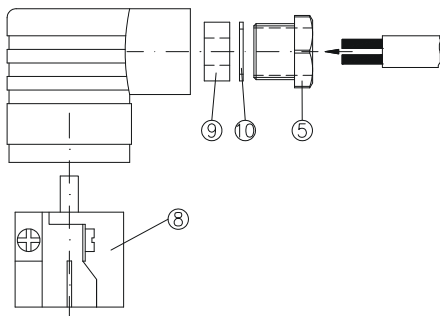
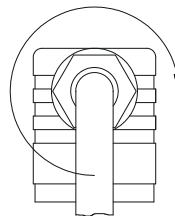

Fig. 5.2.4
Fig. 5.2.5
- ↪ Insert the supply cable through the screwed cable gland ⑤, the pressure ring ⑩ and the rubber insert ⑨ into the cable socket ② (→ Fig. 5.2.4).
- ↪ Press the core ⑧ into the cable socket ② until it locks into place.
- ↪ Put the central screw ⑥ in the cable socket ② and tighten the screwed cable gland ⑤ (→ Fig. 5.2.5).